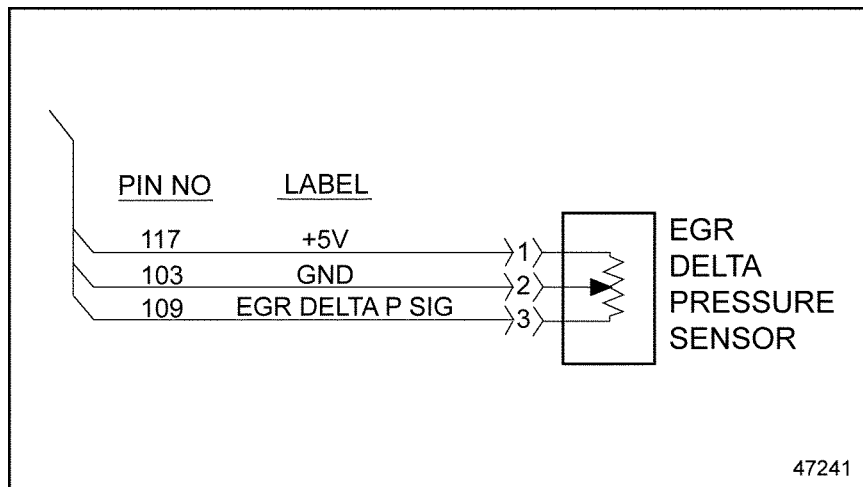

Figure 15-2 EGR Delta P Sensor
- [b] If the resistance is less than 5Ω , repair the short between pins 103 and 109 of the 120-pin MCM connector. See Figure 15-2. Refer to section 15.4.1.1.